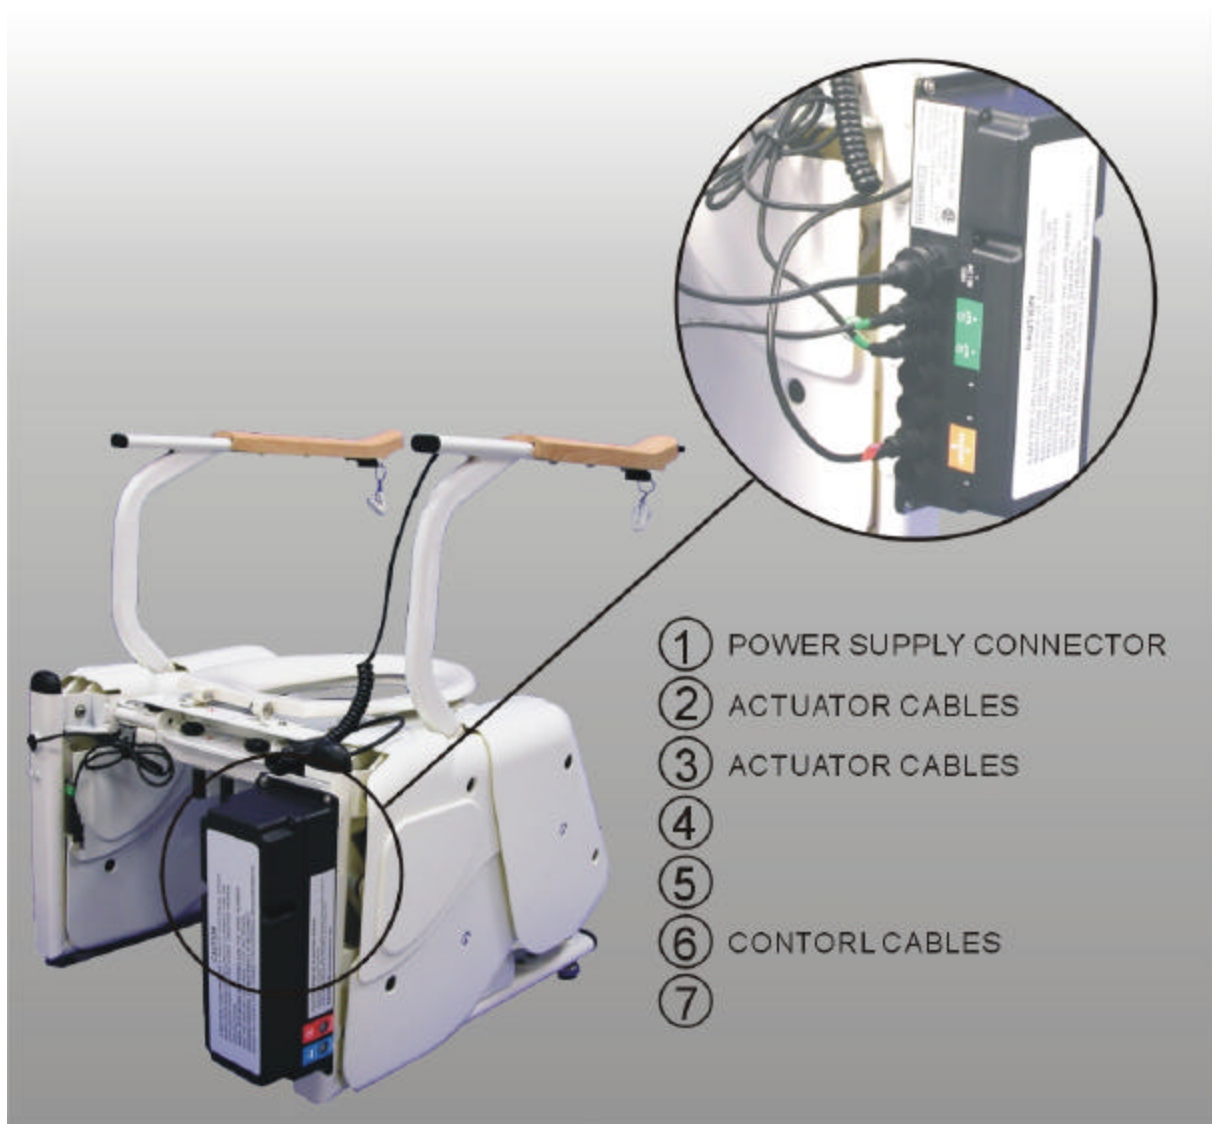

Figure M-1. Transformer/Control Box Connections
- b. Connect the right actuator cable to the third connector port down from the top of the transformer/control box. Push any actuator cable slack back into the side housing. See Figure M-1.
- f. Connect the control box power supply cable to the top connector port of the transformer/control box. If the optional battery pack/charger is being used, connect the power cable from the battery pack/charger to the top connector port of the transformer/control box. See Figure M-1.